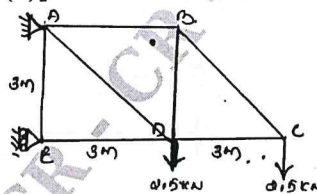

Fig.Q2(b)
- b. Determine the forces in all the members of the truss by using methods of sections and tabulate the forces. [Refer Fig.Q2(b)] (14 Marks)